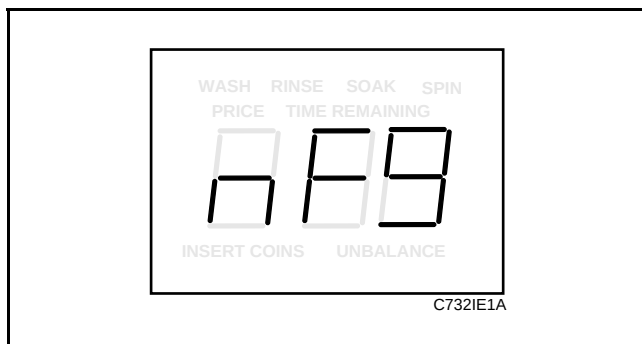

Figure 44
3. Press the DELICATES (+) pad or the COLD (-) pad to scroll through the programmable options until “nFg” appears in the VFD. See **Figure 44**.